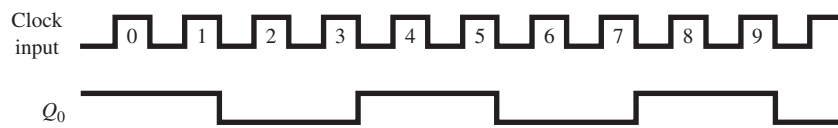

Figure P11
11. Which flip-flop(s) of a 4-bit ring shift counter must be initially Set to produce the waveform shown in Figure P11 at Q_0 ?